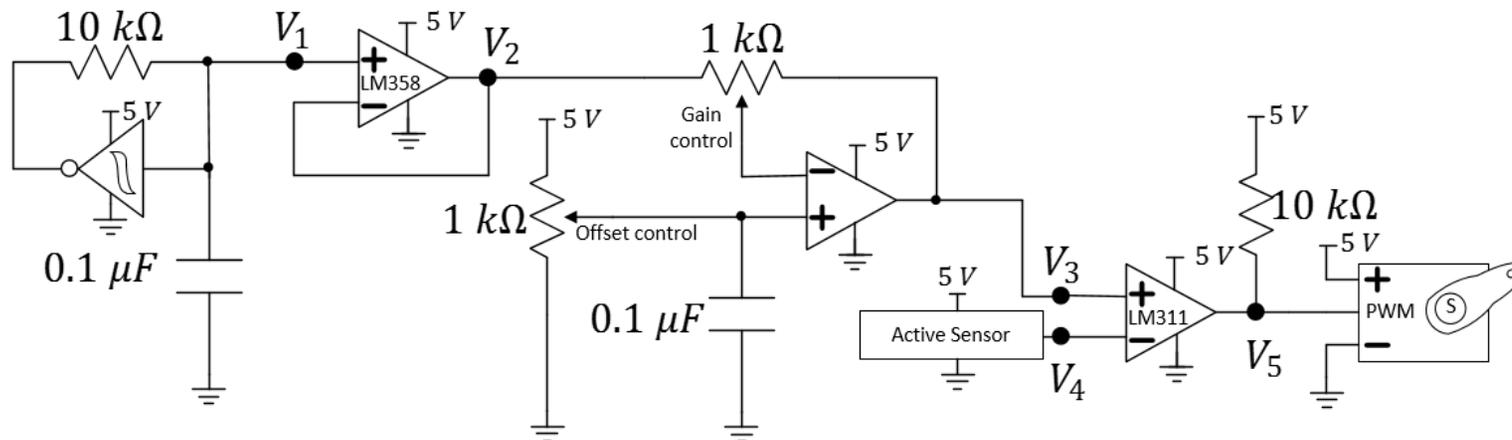
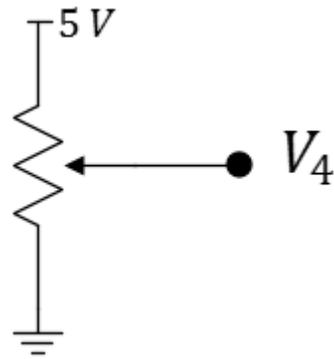

Figure 2: PWM control via an active sensor (several sensors might be explored).
Figure 3: A voltage-divider-type sensor.
- ✓ Build the circuit shown in Figure 2 using a simple voltage divider as the active sensor and a servo motor as the physical output device driven by the PWM waveform. It is okay if you used the LM358 version of the comparator. This entire device (minus the servo) should have already been constructed piecewise in the prerequisite materials listed above.
- ✓ Build the circuit shown in Figure 3 using a trimpot on the order of 1 to 10 kOhms. Use this circuit as the active sensor of Figure 2 for initial setup.